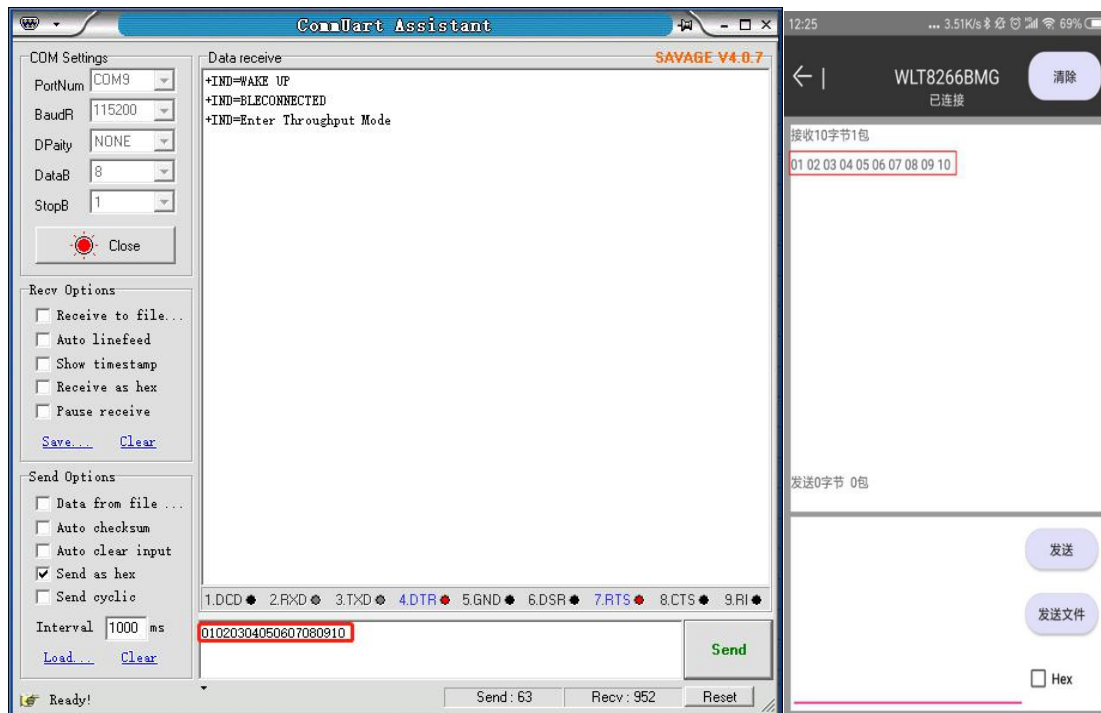

Figure 15.
1) Receive Mode, as shown in Figure 15.